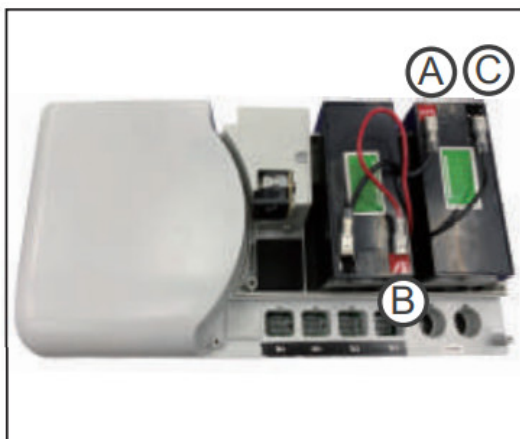

Fig.3
Step 3: Please place the batteries in the direction shown in Fig.3, and then unplug wire A from the batteries.
Step 4: After unplugging wires B and C, the batteries can be removed. (Fig.3, 4)